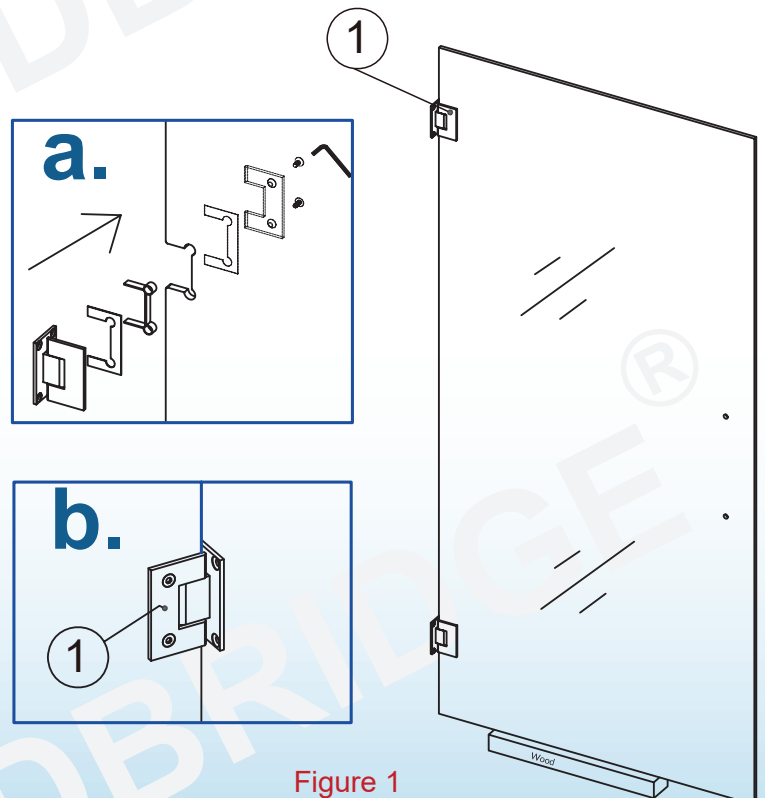

Figure 1
1. Disassemble the hinge and attach the Hinges (1) to the Glass door (4). See Figure 1 for details.